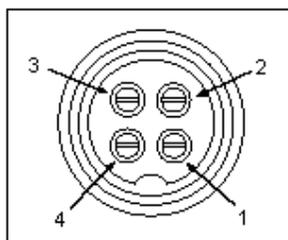

Figure 2-5 Microphone plug pin numbers viewed from rear of pin receptacle.
- (v) The wires must now be soldered to the pins as indicated in the above wiring tables. If a vise or clamping tool is available it should be used to hold the pin receptacle body during the soldering operation, so that both hands are free to perform the soldering. If a vise or clamping tool is not available, the pin receptacle body can be held in a stationary position by inserting it into the microphone jack of the front panel. The numbers of the pins of the microphone plug are shown in Figure 2-5, as viewed from the back of the plug. Before soldering the wire to the pins, pre-tin the wire receptacle of each pin of the plug.